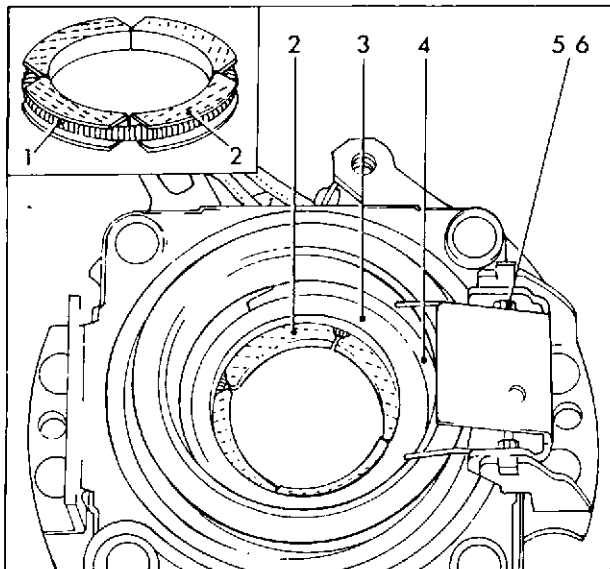

Fig. 18 Assembling solenoid plunger segments
- Place the moulded insulator (1) over the terminal (2) as shown and place the sealing washer (3) in position. Pass the terminal through the hole in the drive end shield which has the large counter-bore on the outside. Assemble items 4—7 inclusive in position and secure with the spring washer (8) and nut (9); tighten the nut to a torque loading of 12.2 to 13.6 Nm (9 to 10 lbf. ft.). Place the spring washer (10) in position and screw on the nut (11) finger tight.
- Assemble the four segments (2) fig. 18 inside the spring (1) and position them in the solenoid plunger. Fit the retaining washer (3) over the segments ensuring that the projections on the underside engage between the segments and that the slot locates over the tongue in the wall of the plunger recess. Insert the Spirolox circlip (4) into the groove in the plunger bore and lightly smear the trigger spring (5) and spindle (6) with Aero Shell 16 grease.